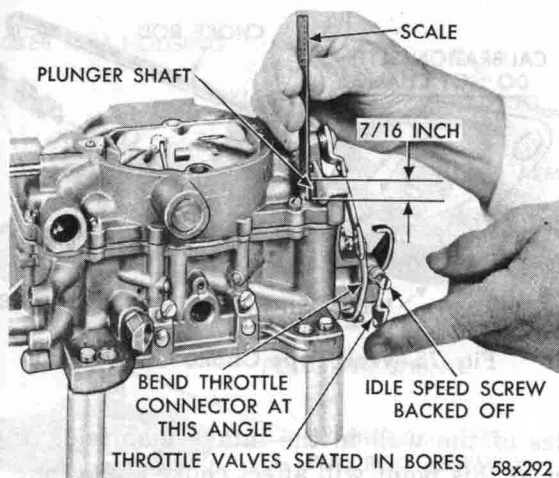

Fig. 72—Checking Accelerator Pump Travel
(1) Move the choke valve to wide open position, to release the fast idle cam. Back off the idle speed adjusting screw until the throttle valves are seated in the bores.
(2) Measure the distance from the top of the air horn to the top of the plunger shaft, using a "T" scale as shown in Figure 72. This distance should be 7/16 inch.